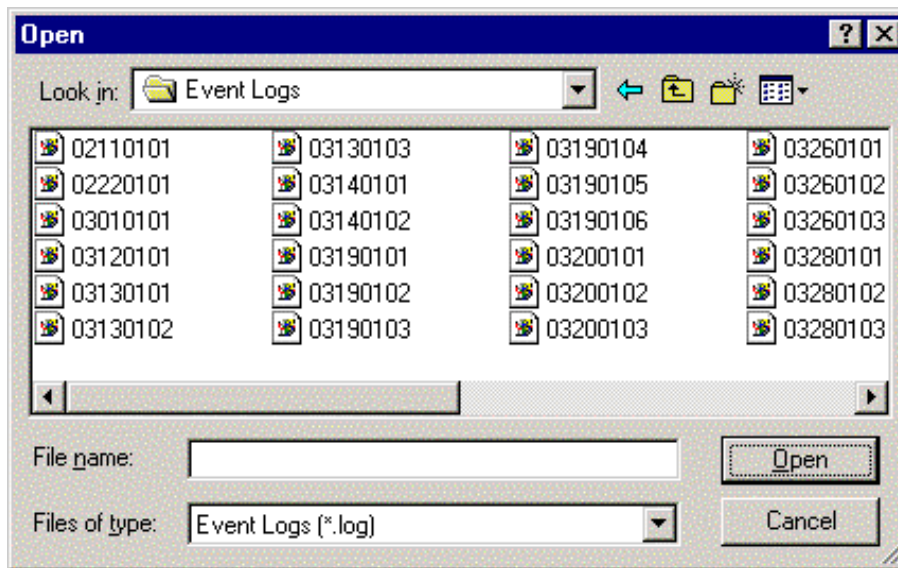

Figure 11-9 Event Log Listing
- 2 Select Event Log in the *Files of type* field. The display will list the sample logs as shown in Figure 11-9.